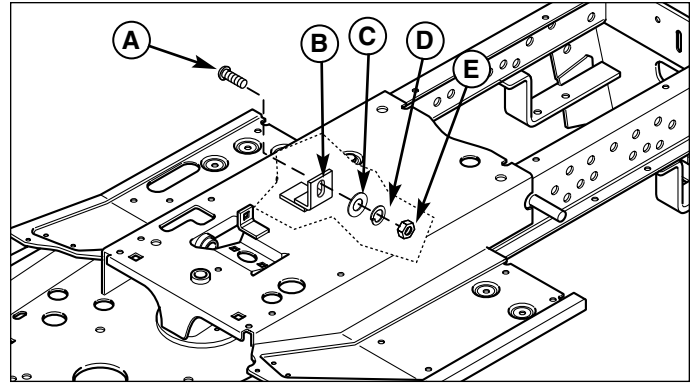
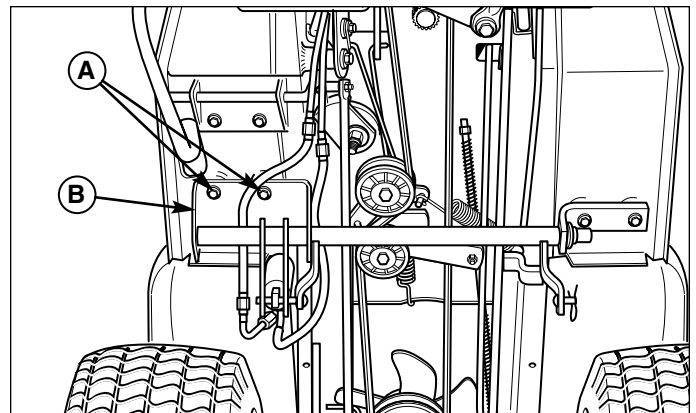

Figure 31. Support Bracket
Figure 32. Lift Quadrant
1. Loosen the four capscrews (A, Figure 32) securing the quadrant (B) to the footrest.
2. Insert the reinforcement bracket (B, Figure 31) between the quadrant (B, Figure 32) and foot rest. Align the hole in the bracket with the square hole (A, Figure 33) in the frame.
3. Secure the bracket (B, Figure 31) to the frame using a 5/16-18 x 3/4 carriage bolt (A), washer (C), lock-washer (D), and nut (E).
4. Tighten the quadrant hardware (A, Figure 32).